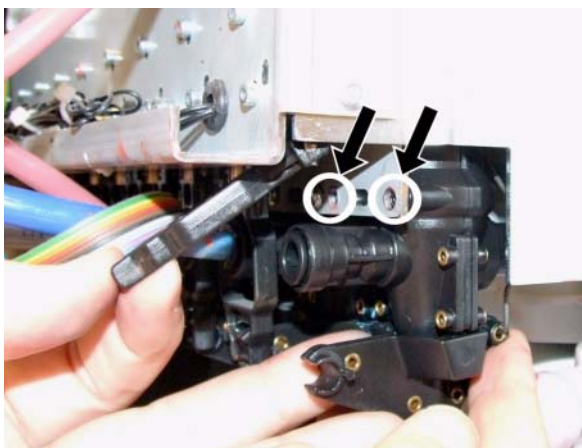

Figure 58: Push the pump forward so that you can see the screw bodies through the holes.
3. Push the pump forward so that the bodies of the screws are in the holes, see figure 58.